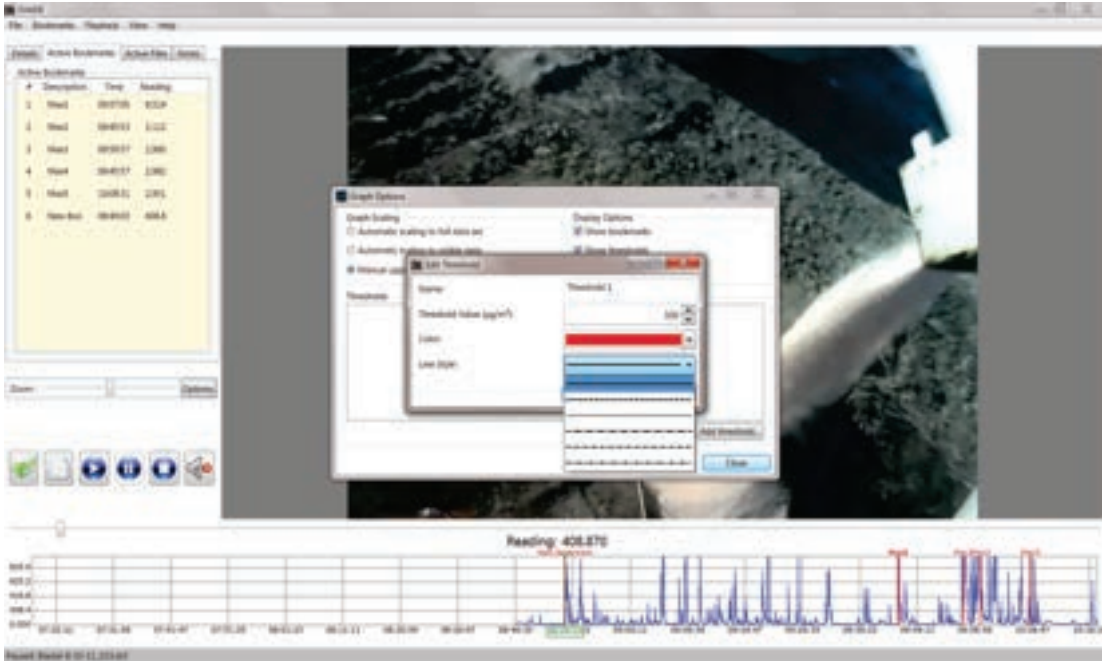

Figure 46. The Edit Threshold dialog box showing the drop-down line style selection box.
5. In the Line Style box, select the down arrow or simply select the box to open a drop-down box containing six different line styles (Figure 46). Select one of the line styles, then click on the **Ok** button to create the threshold lines.